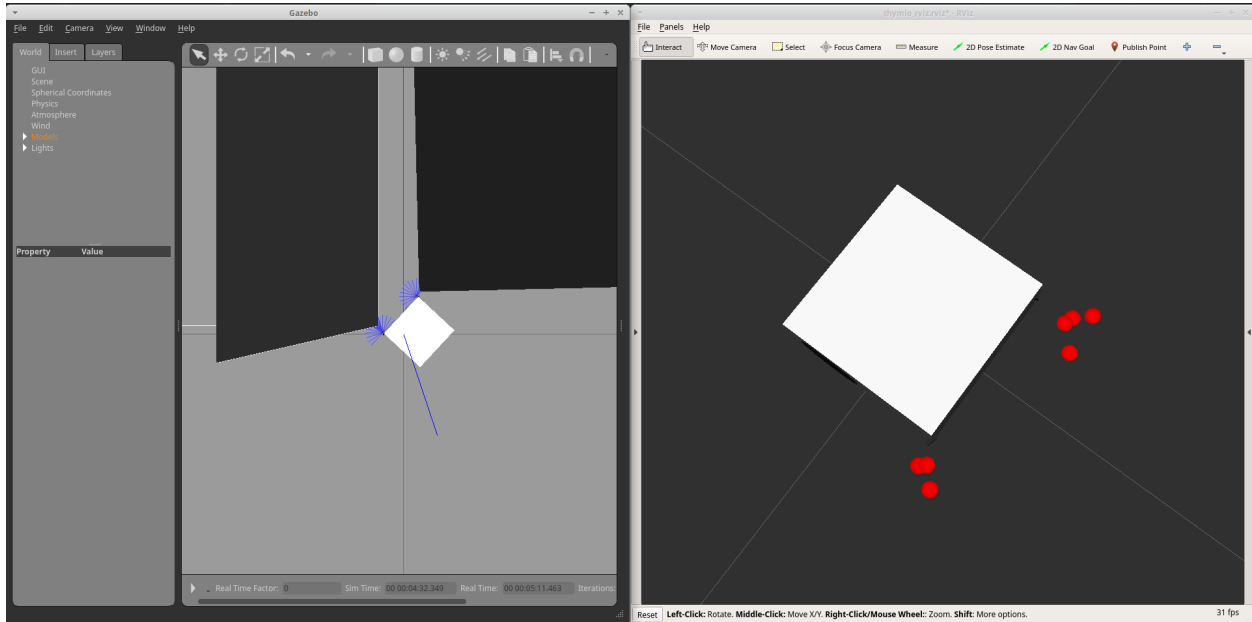

Figure 8: Thymio-like robot facing obstacles (left) and sensing them with its laser sensors (right).
4. You can also add a few random obstacles in front of your robot and launch RViz where you can **Add** → **By topic** and select your sensors' topics. Now you should be able to see the ray collisions (see Fig 8)